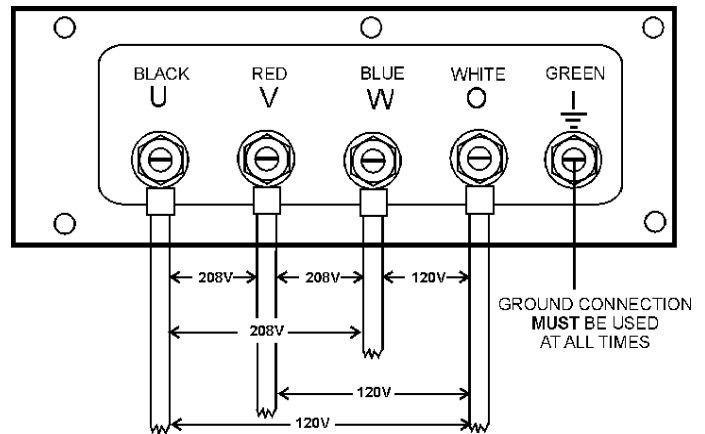

Figure 23. UVWO Terminal Lugs 3Ø-208V/120V Connections
2. Connect the load wires to the UVWO terminals as shown in Figure 23.